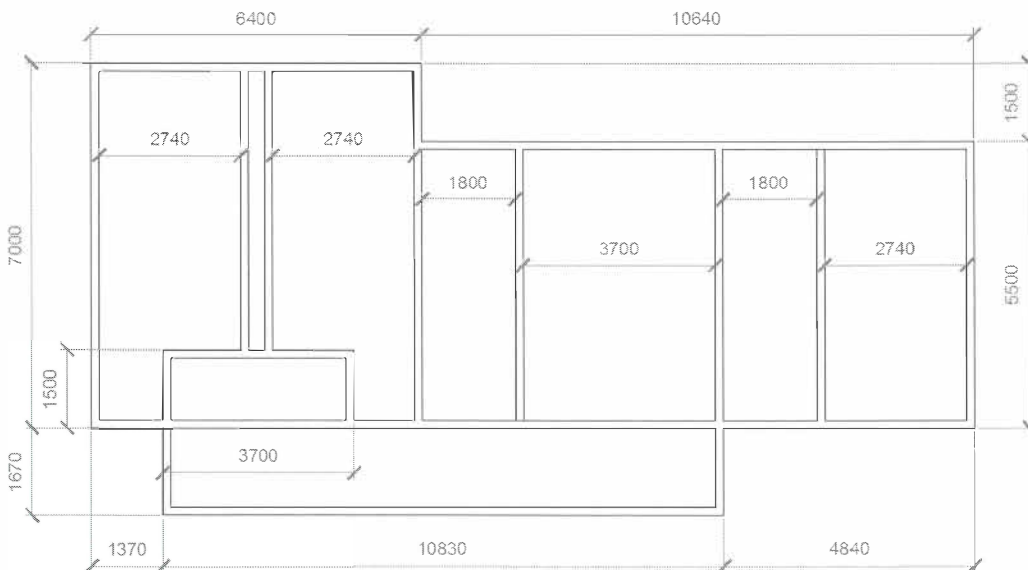

Figure 12-15
6. Draw the interior walls, as shown in Figure 12-15. Start at the absolute coordinate point of **15540,19350** at the intersection of the **1370** and **7000** lines. The interior walls are **150** thick.